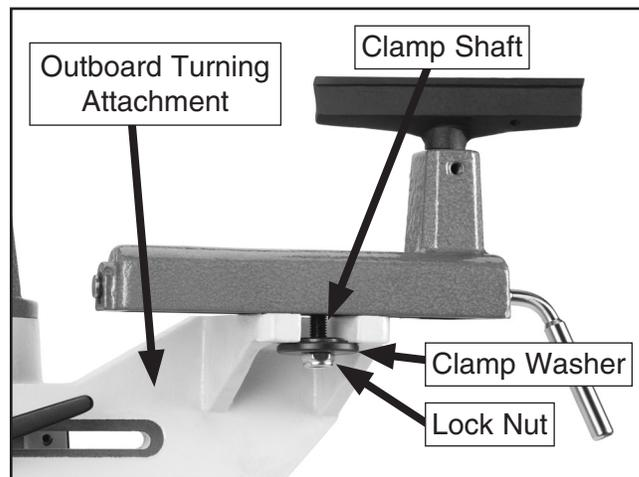

Figure 33. Outboard mounting.
5. Lift the tool rest from the lathe bed and reposition it on the outboard turning attachment so that the clamp shaft protrudes through the gap in the outboard turning attachment (**Figure 33**).